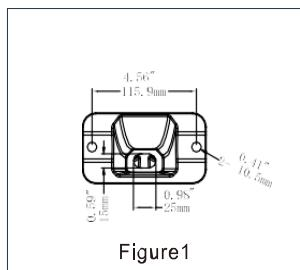

Figure1
1. Hole sizes of the mounting bracket. (Figure 1)